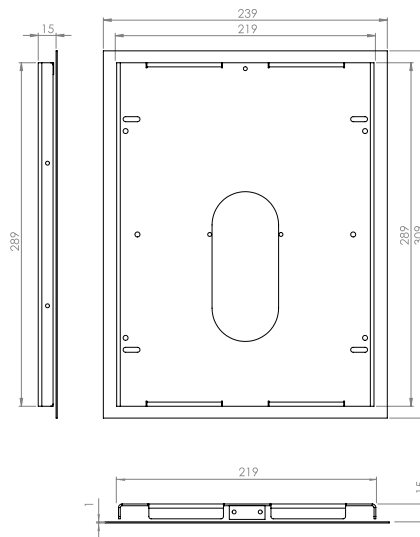

Fig. 17
- Abb. 17: Dimensions recess for TWE for Apple iPad 2/3/4, Air 1/2, iPad 5 (2017), Pro 9.7/9.7 (2018) oder Samsung Galaxy Tab A 10.1/E/S2 9.7/S3 9.7/S4 10.5 (B x H x T): 219 x 289 x 16,3 mm